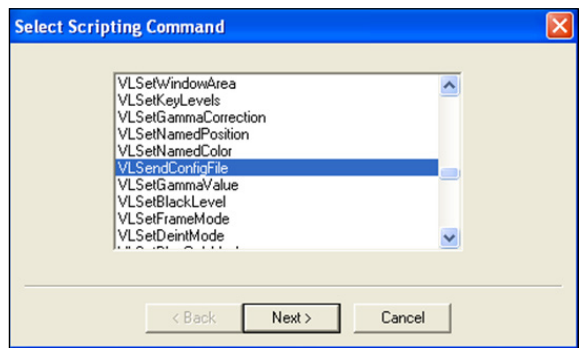

Figure 29: Selecting Command
6. Select the scripting command **VLSendConfig File**, then click **Next**. Refer to **Figure 29**.